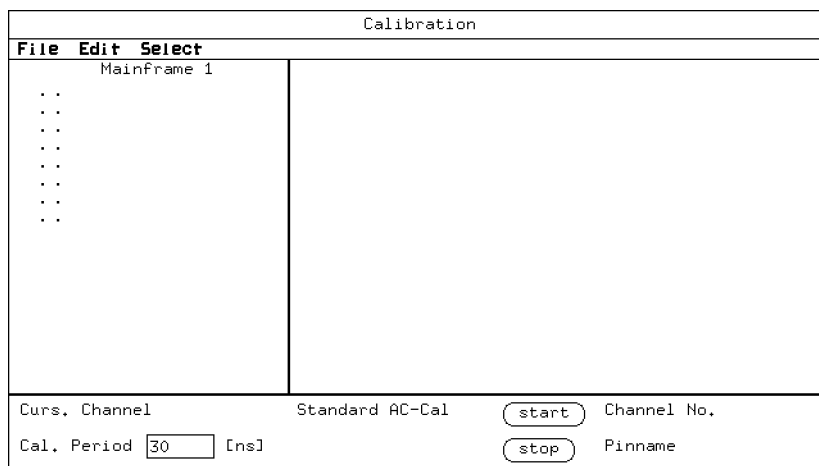

Figure 9-8. Standard AC Calibration Window
2. Click **Select** and select **Standard AC_Cal** in the pull-down menu. The Standard AC Calibration screen will be displayed as shown in Figure 9-8.